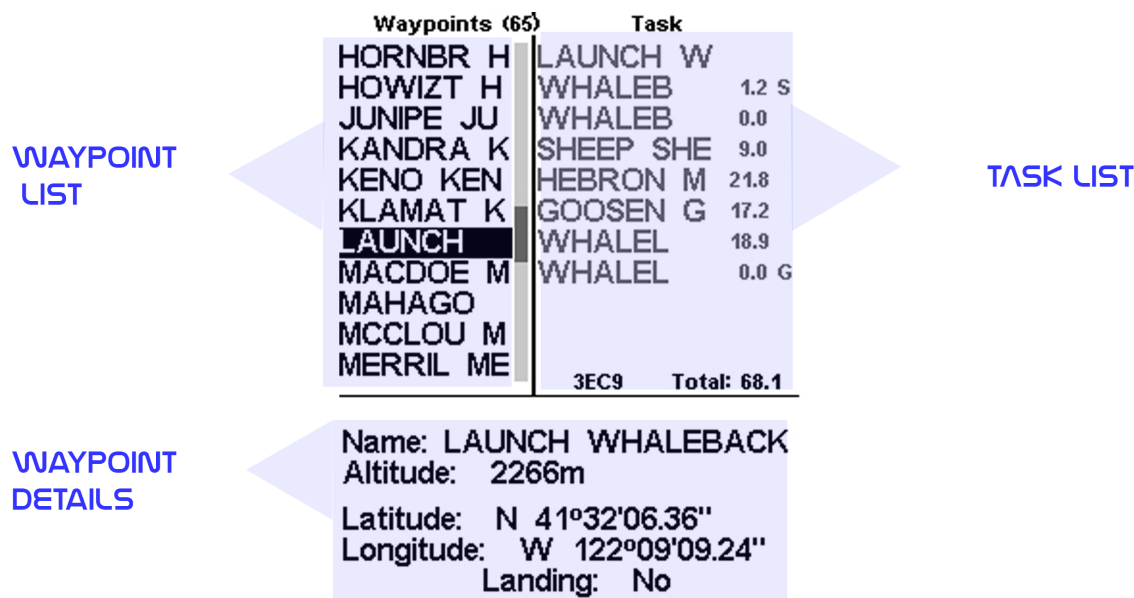

Figure 4.2: Waypoints and RouteScreen
The Waypoints/Routepage allows the user to manage waypoints, and define a route/task. As shown in Figure 4.2, the page is divided into 3 areas, namely the waypoint list (WL); Routelist (TK) and selected waypoint details/options list (DO). The DO area can change according to which submenu you are in. Specifically, it can show the selected waypoint data, or a list with possible actions for the waypoints. Entering the page activates the WL area. At the top of the page next to the title Waypoints, is the total number of Waypoints stored in the GPS SD+ instrument¹. The first waypoint on the list appears highlighted, and the corresponding data of the selected waypoint is shown in the DO area. As the cursor is moved to a different waypoint so the data changes matching the newly selected waypoint. If the waypoints list is empty a list of available actions is shown in the DO area. Since no waypoint exists only the *Insert new Waypoint* action is available.